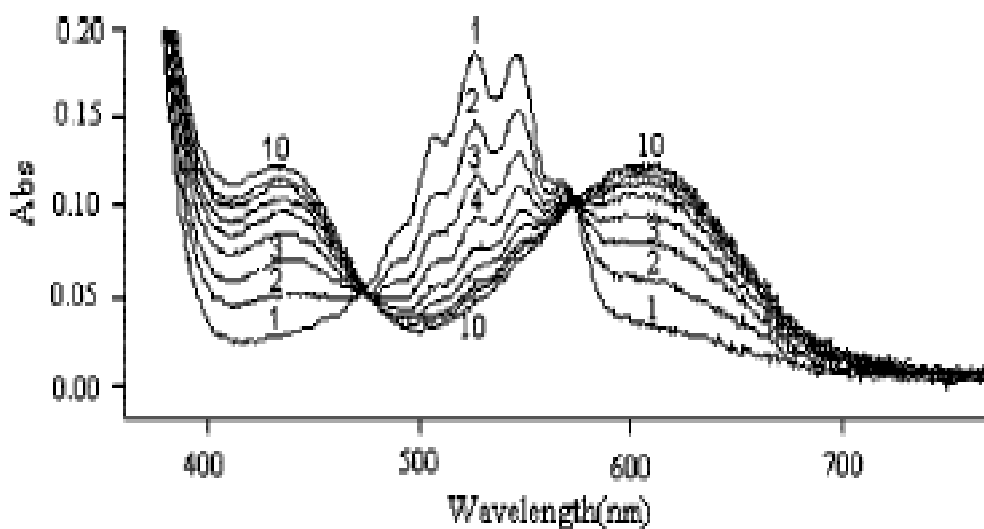

Fig. 4. DCF oxidation with  $\text{KMnO}_4$
**Q1.** Spectral changes in the course of DCF oxidation with  $\text{KMnO}_4$  are given in Fig. 4, (1 to 10 reflects the reaction progress). Complete the table below suggesting which wavelengths can be applied for photometric kinetic determination of DCF. In each case, indicate the direction of the absorbance changes (denote increasing with  $\uparrow$  and decreasing with  $\downarrow$ ).